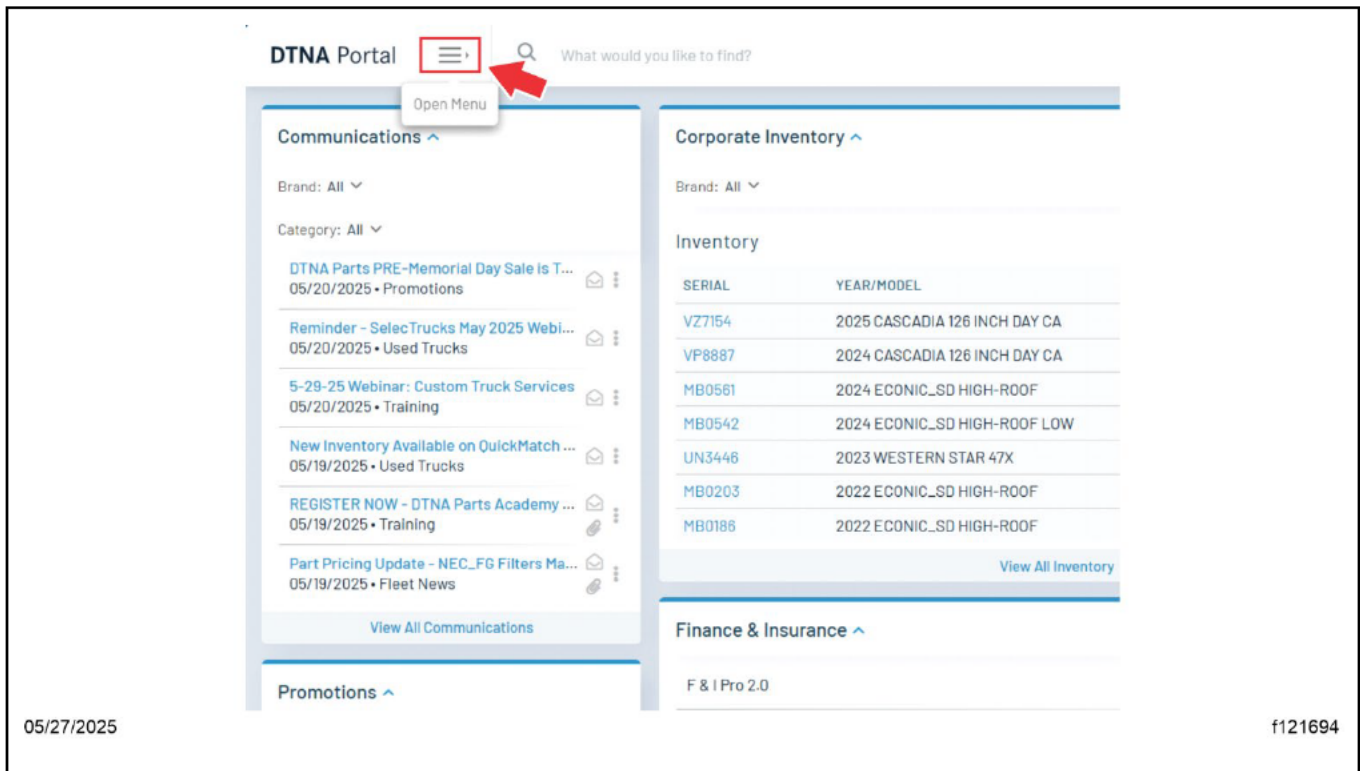

Fig. 1, Opening the DTNA Portal Menu
1. Go to the DTNA Portal. Select the 'Open Menu' icon at the top left of the screen to open the sidebar. See Fig. 1.